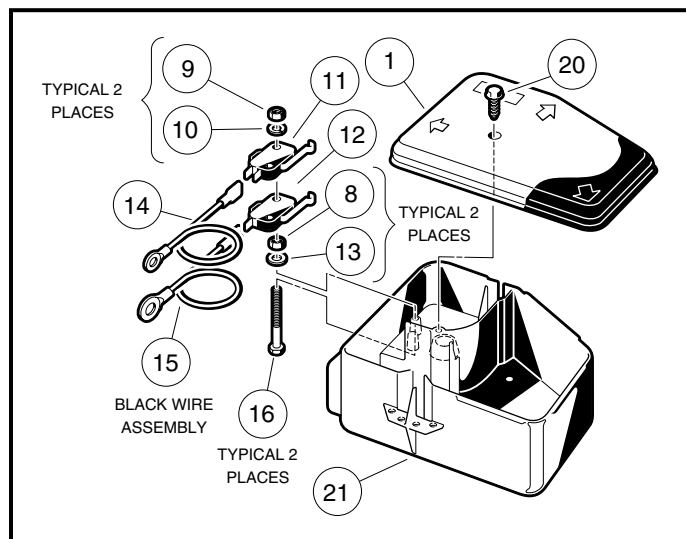
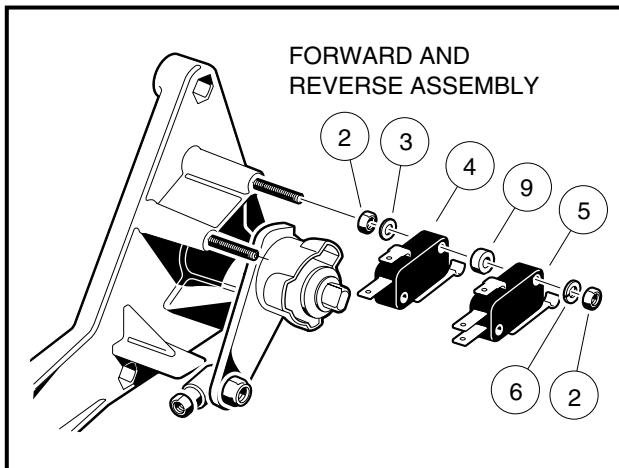

FIGURE 12-50
FIGURE 12-51
3. Remove electrical component box cover (**Figure 12-50**).
### Removing the Accelerator Starter Limit Switch (Figure 12-50)
### Installing the Accelerator Starter Limit Switch (Figure 12-50)
### Removing the Kill Limit Switch (Figure 12-50)
4. Remove the two nuts (9) and washers (10) that secure the accelerator starter limit switch (11). Do not disconnect the wires.
5. Disconnect the two white/black wires and the black wire from the kill limit switch (12).
6. Remove the kill limit switch (12).
**Installing the Kill Limit Switch (Figure 12-50, Page 121)**
1. Install the kill limit switch (12) onto the two screws (16).
2. Connect the two white/black wires to the common (COM) terminal and the black wire to the normally open (NO) terminal of the kill limit switch (12).
3. Install the accelerator starter limit switch (11) onto the two screws (16). Secure the switch in place using the two washers (10) and the two nuts (9). Torque to 5 in.lbs. (0.6 N-m).
**NEUTRAL LOCK-OUT LIMIT SWITCH****Removing the Neutral Lock-out Limit Switch (Figure 12-51)**
3. Disconnect the green, white and black wires from the neutral lock-out limit switch (5) located on the back of the forward and reverse assembly.
4. Remove the two nuts (2) and washers (6) from the neutral lock-out limit switch (5) and slide the neutral lock-out limit switch off the screws.
**Installing the Neutral Lock-out Limit Switch (Figure 12-51)**
1. Install the neutral lock-out limit switch (5) and install the two washers (6) and the two nuts (2). Torque to 5 in.lbs. (0.6 N-m). Place the forward and reverse lever in REVERSE position to make sure that both switches are actuated. See WARNING at top of Page 123.
**REVERSE BUZZER LIMIT SWITCH****Removing the Reverse Buzzer Limit Switch (Figure 12-51, Page 123)**
### Installing the Reverse Buzzer Limit Switch (Figure 12-51, Page 123)